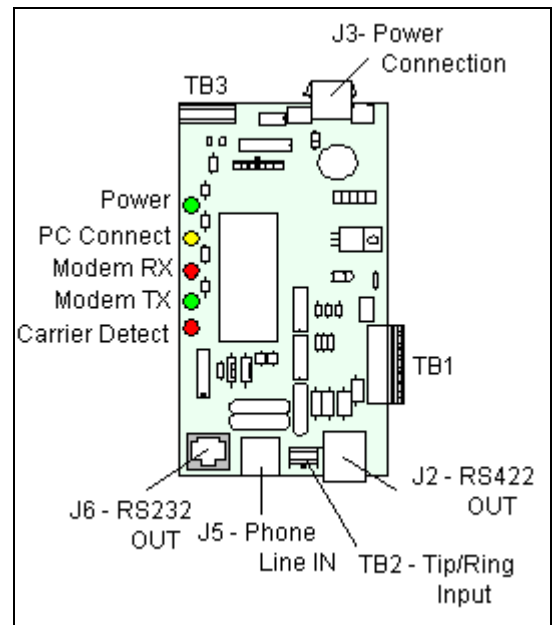

Figure 39: Modem
2. First disconnect and label all the wires connected to the modem (refer to **Figure 39** on the right for the cable locations).